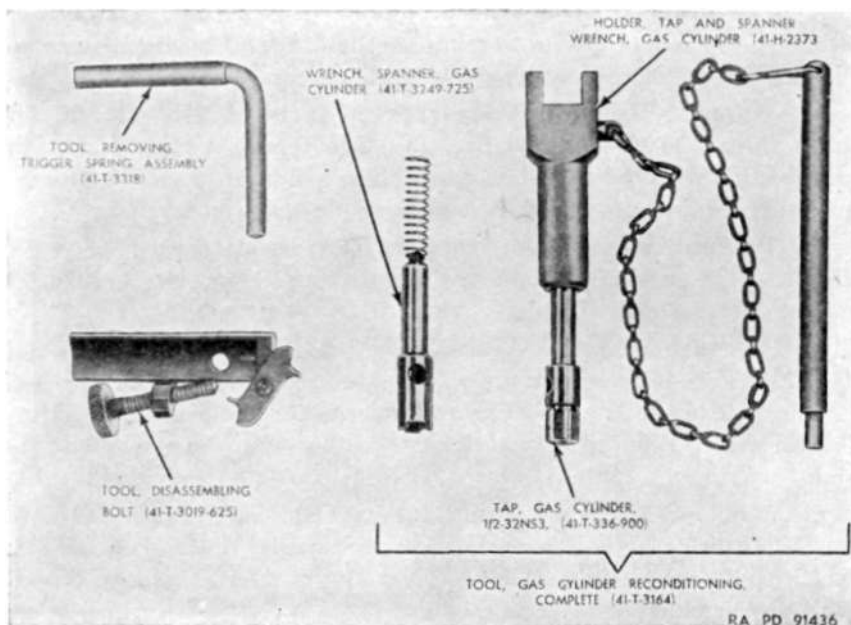
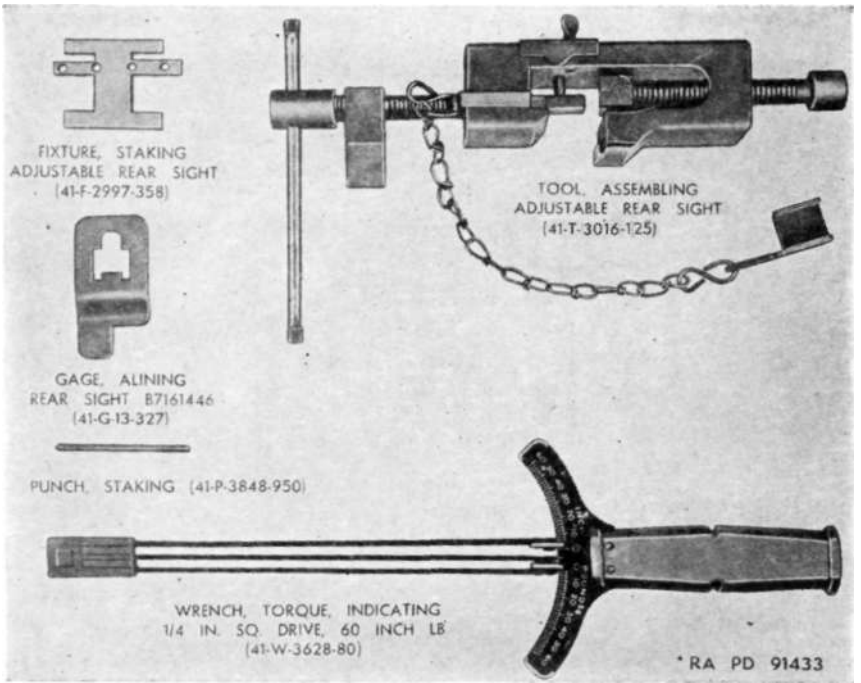

Figure 11. Special tools.
Figure 13. Tools for installing adjustable rear sight.
*a.* TOOL, DISASSEMBLING, BOLT 41-T-3019-625 (fig. 11). This tool consists of a concave body to receive the bolt. A thumb screw set at an angle applies pressure when tightened, to the right locking lug of the bolt. A small stud on the inside forward end of the tool bears against the ejector, and a pivoted pawl, for depressing the ejector plunger, is on the upper forward portion of the tool.
*b.* TOOL, REMOVING, TRIGGER SPRING, ASSEMBLY 41-T-3318 (fig. 11). This tool consists of a hollow tube 0.3135 inch diameter with a handle projecting at a 90° angle from the tube.
*e.* TOOL, GAS CYLINDER RECONDITIONING, COMPLETE 41-T-3164 (fig. 11). (1) The gas cylinder reconditioning tool consists of —
(2) It is used to remove and install the gas piston nut and to recondition the threads in the gas cylinder; it is composed of three main parts, a holder, a wrench, and a tap. The holder is designed to be attached to the lug on the bottom of the receiver. Drill a well in the holder to receive the shaft and spring of either the wrench or tap. The wrench and tap are operated by using a steel pin attached to the holder, which serves as a lever when inserted into the wrench or tap.
*f.* TOOL, ASSEMBLING, ADJUSTABLE REAR SIGHT 41-T-3016-125 (fig. 13). This tool is designed to fit over the receiver, and when properly located, utilizes a jack screw to force the sight into position. A dovetail guide and a locating pin in conjunction with a lip on the lower right-hand side of the tool assures that the tool is positioned correctly. A jack screw and connector serve to remove adjustable rear sights which cannot be installed within the prescribed pressure limits. A spacer, attached to the tool, serves to reinforce the wings of the stamped typed sight when pressure is applied by the jack screw.
*g.* WRENCH, TORQUE, INDICATING  $\frac{1}{4}$  INCH SQUARE DRIVE, 60-INCH POUND 41-W-3628-80 (fig. 13). The torque wrench is used in conjunction with the rear sight assembling tool in order to measure the pressure required to position the adjustable rear sight.
*h.* PUNCH, STAKING SIZE  $\frac{1}{8}$  INCH X 2 INCH, PT. 0.005 41-P-3848-950 (fig. 13). The staking punch is used for staking the receiver to hold the adjustable rear sight in place.
*i.* FIXTURE, STAKING, ADJUSTABLE REAR SIGHT 41-F-2997-358 (fig. 13). The staking fixture is a template used to locate the points of staking after installing an adjustable rear sight. One end of the fixture is used with the stamped type sight, the other with the machined type sight.
o. GAUGE, ALIGNING, REAR SIGHT B7161446 41-G-13-327 (fig. 13). This gauge is designed to fit over the old "L" type sight. The right rear portion of the gauge, that is parallel to the axis of the bore, is centered through the aperture, and a scribe mark made along this surface is used as an alignment mark when installing the new sight.